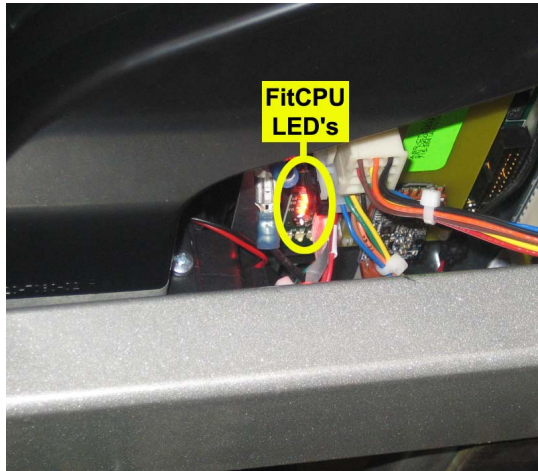

Fig. 3
2. Check the FitCPU. Verify that some of the LED's on the board are lit (Fig. 3).